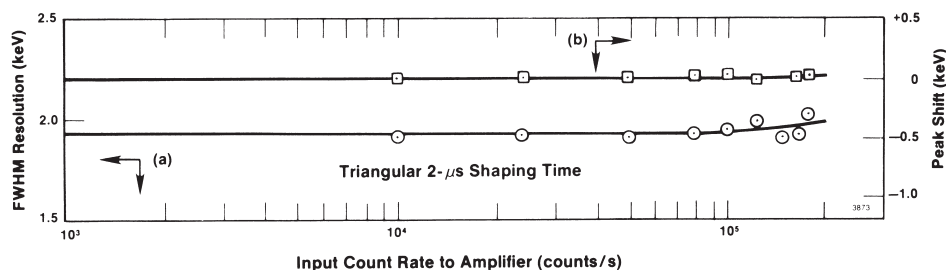

Fig. 2. (a) Resolution and (b) Peak Position Stability as a Function of Counting Rate. See specifications for spectrum broadening and spectrum shift.
To minimize spectrum distortion at medium and high counting rates (Fig. 2), the unipolar output incorporates a high-performance, gated, baseline restorer with several levels of automation. Automatic positive and negative noise discriminators ensure that the baseline restorer operates only on the true baseline between pulses in spite of changes in the noise level. No operator adjustment of the baseline restorer is needed when changes are made in the gain, the shaping time constant, or the detector characteristics. Negative overload recovery from the reset pulses generated by transistor-reset preamplifiers and pulsed optical feedback preamplifiers is also handled automatically. A monitor circuit gates off the baseline restorer and provides a reject signal for a multichannel analyzer until the baseline has safely recovered from the overload.
**SPECTRUM BROADENING† (Fig. 2)** Typically  $< 8\%$  broadening of the FWHM for counting rates up to 100,000 counts/s, and  $< 15\%$  broadening for counting rates up to 200,000 counts/s. Measured on the 1.33-MeV gamma-ray line from a  $^{60}\text{Co}$  radioactive source under the following conditions: 10% efficiency ORTEC GAMMA-X PLUS detector, 8.5-V amplitude for the 1.33-MeV gamma-ray on the unipolar output.
**SPECTRUM SHIFT† (Fig. 2)** Peak position typically shifts  $\leq \pm 0.018\%$  for counting rates up to 100,000 counts/s, and  $\leq \pm 0.05\%$  for counting rates up to 200,000 counts/s. Measured on the 1.33-MeV line under conditions specified for SPECTRUM BROADENING.